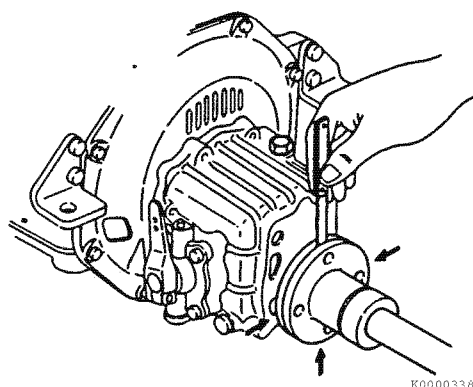

Figure 5-33
3. Insert a feeler gauge between the propeller shaft coupling halves at four equally-spaced points around the circumference (**Figure 5-33**). Adjust as needed and torque to specification.